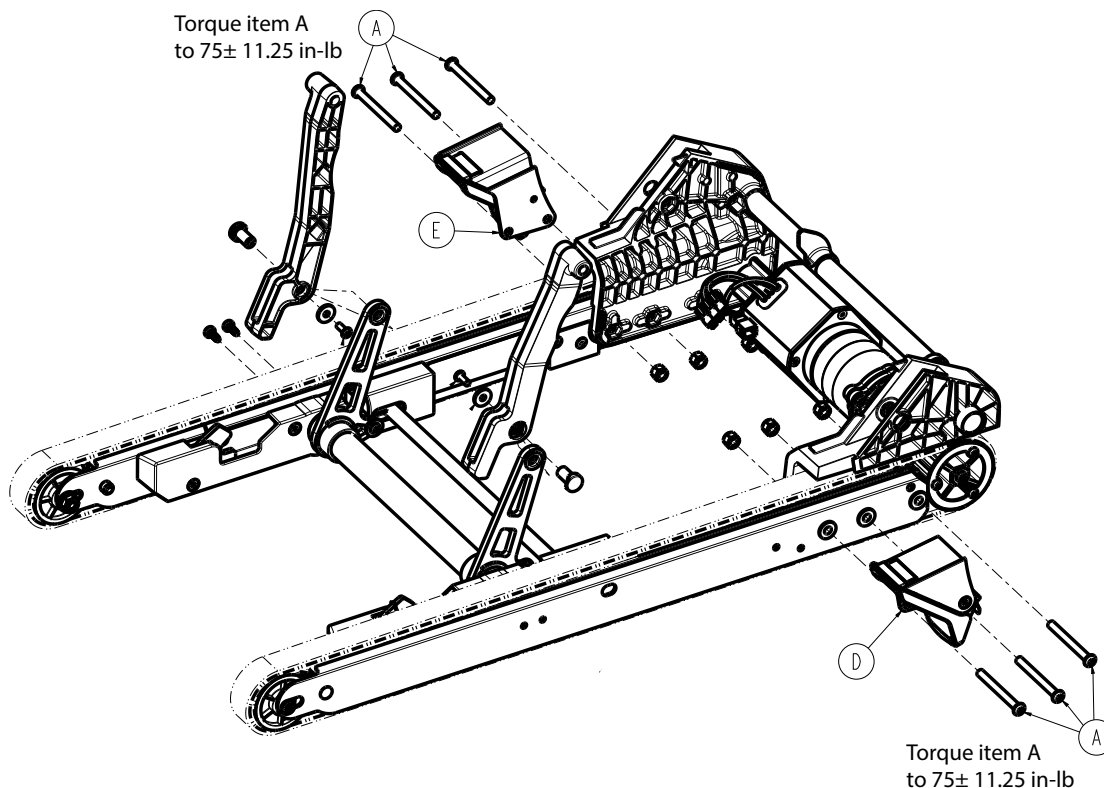

Figure 22 –
- On the left side, turn the track tension cam (AG) clockwise to loosen.
- On the right side, turn the track tension cam (AG) counterclockwise to loosen.
- Using a torque wrench, torque the flanged Nylock hex nut (AF) to  $50 \pm 7.50$  in-lb when you reinstall.
- Using a torque wrench, torque the track tension bolt (AE) to  $120 \pm 18.75$  in-lb when you reinstall.
8. Using one hand, push to remove the track tension pin (P) (Figure 22). Save the track tension pin.
9. Using a T27 Torx driver, 3/8" drive ratchet, and a 3/8" drive 3" extension, loosen both button head cap screws (A) that secure the brake assembly (D or E) to the track assembly (Figure 22).
10. Remove the button head cap screw (A) closest to the caster assembly (Figure 22). Save the screw.